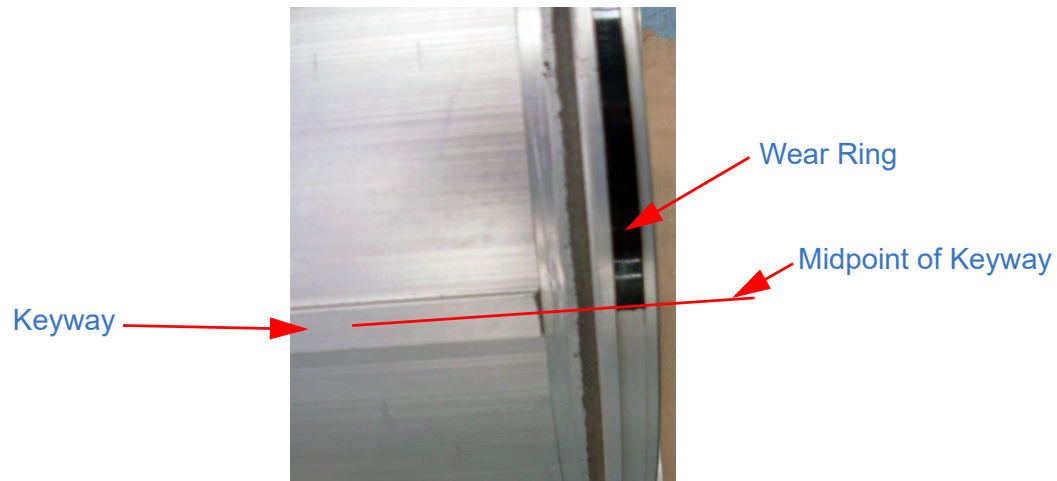

Figure 8-10 Wear Ring Aligned with Keyway Midpoint
1. Line up (1) end of an 8.25 wear ring (P/N: 902424) with the midpoint of the mast keyway (Figure 8-10).